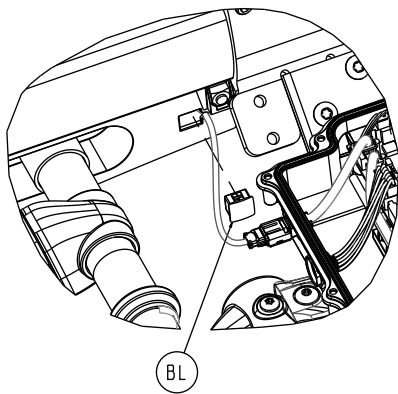

Figure 57 – Remove the hole plug
6. Using a pick, remove the hole plug (BL) from the back of the slider block (Figure 57). Save the hole plug.